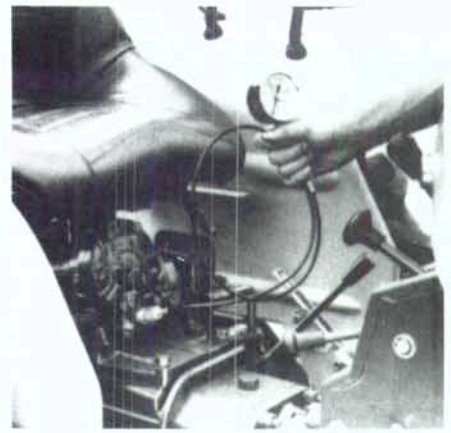
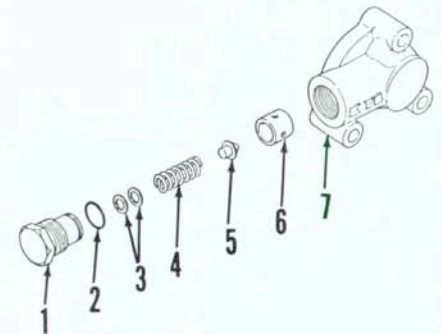
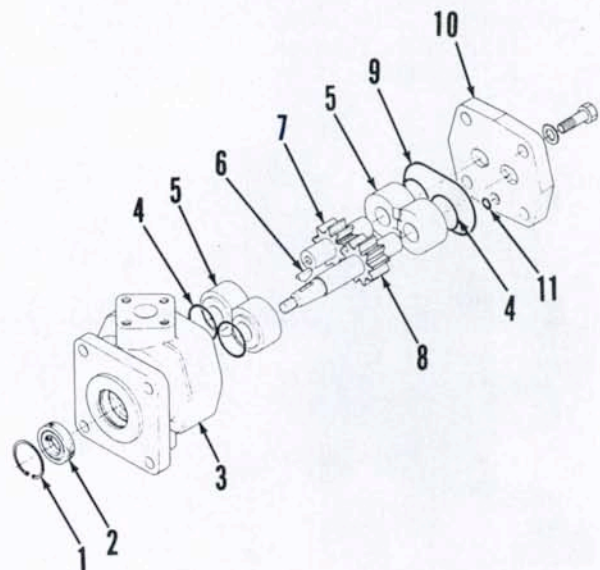

Fig. 154—Connect pressure gage into pressure test port in hydraulic cylinder cover to check and adjust relief valve pressure setting.
Fig. 155—Exploded view of hydraulic system relief valve assembly. Pressure setting is adjusted with shims (3).
Fig. 156—View of position control feedback rod adjustment on Model L275. Other models are similar. Refer to text for adjustment procedure.
Hydraulic system relief pressure should be 13240-14690 kPa (1920-2130 psi) on all models. To check relief pressure, remove plug from test port in hydraulic cylinder cover and install a pressure gage as shown in Fig. 154. Disconnect linkage feedback rod (1 - Fig. 156) and remove position control lever upper stop. With hydraulic fluid temperature at approximately 40°C (100°F) and engine operating at high idle speed, move draft control lever (if equipped) and position control lever to highest positions and note pressure gage reading when relief valve is actuated. If pressure is not within specified limits, remove plug (1 - Fig. 155) from relief valve assembly and add or remove shims (3) to obtain desired pressure relief setting. Reconnect and adjust linkage feedback rod as outlined in following paragraph.
To adjust position control feedback rod, start engine and move position control lever to "LIFT" position. Shorten feedback rod (Fig. 156) until relief valve is actuated, then lengthen rod one full turn and tighten locknut. Operate position control lever from full down position to full up position to make sure relief valve is not actuated.